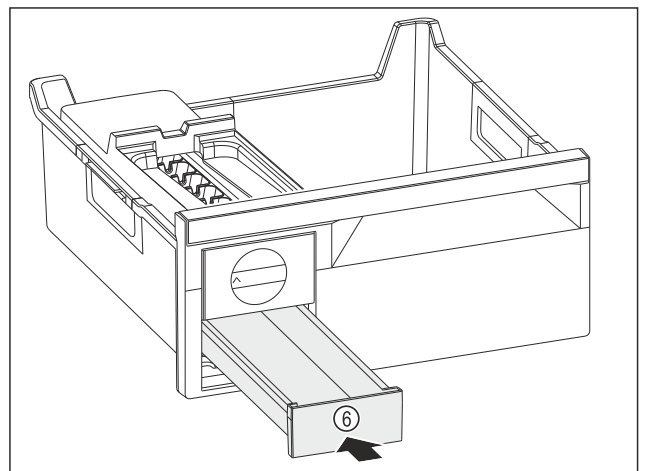

Fig. 111
- ▶ Insert the ice cube drawer Fig. 111 (6).